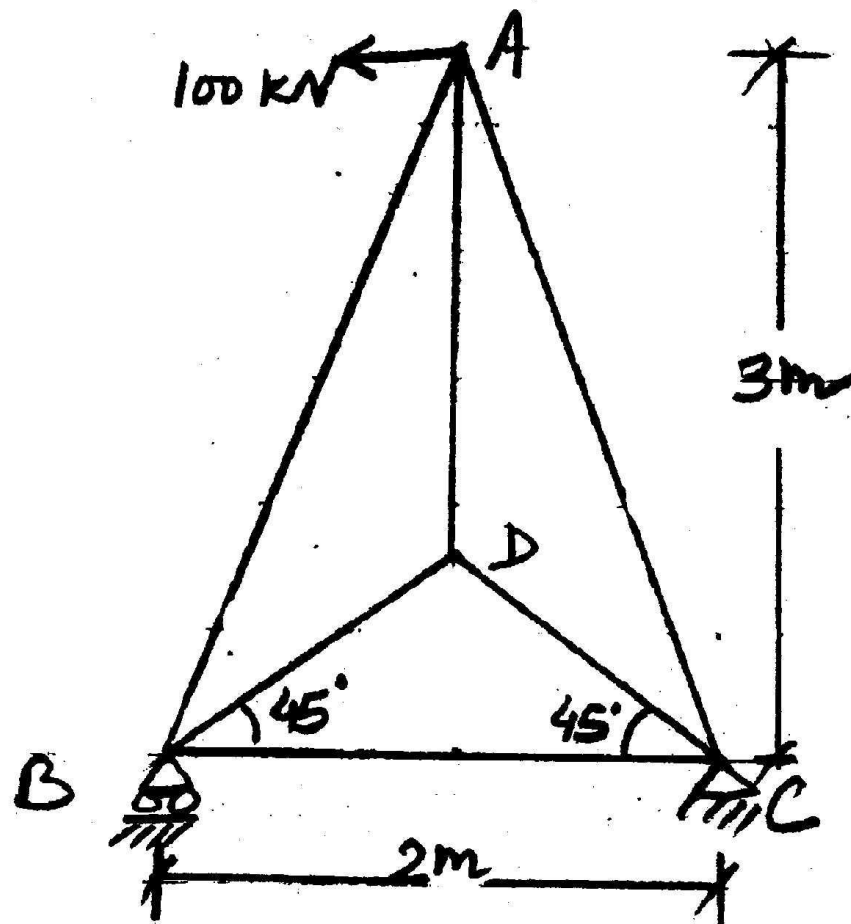

Fig. 7
- 4 In the pin jointed truss shown in Fig. 7, the members AB, BC and CA have area of cross section '2a' and members DA, DB and DC have area of cross section as 'a'. Find the force in the member DA due to a load of 100 kN applied horizontally at A.